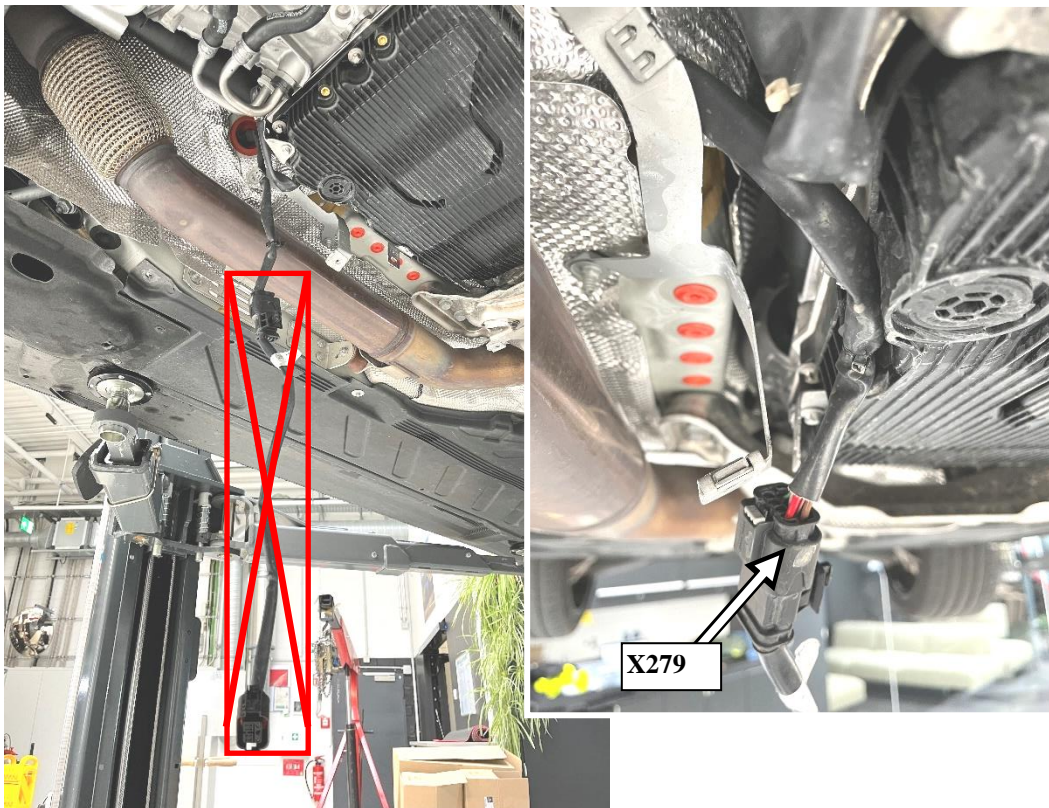

Figure 3
**i** Once the harness is guided out, disconnect the hanging line (**Figure 3**) from the wiring harness on the vehicle side.
**i** The removed wiring harness from the connector coupling (**Figure 3, X279**) to the connector coupling of the transfer case control unit (N45) is not reinstalled and can be discarded (**Figure 3 – marked in red**).